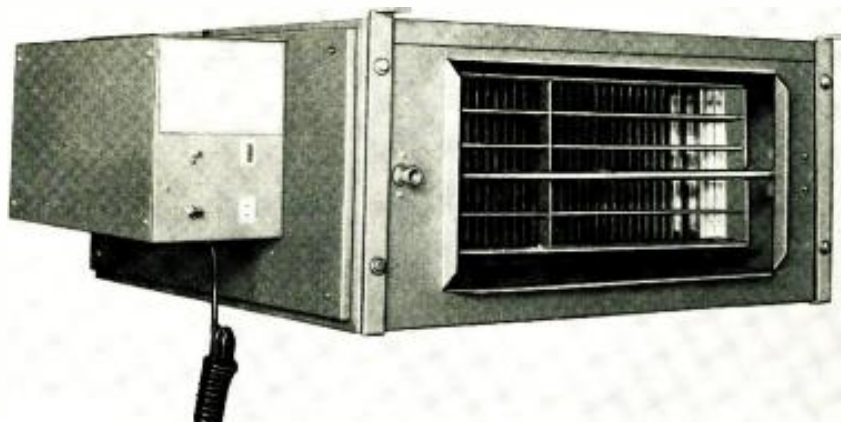

Fig. 3. Westinghouse "Precipitron" utilized for duct-type installations.
is accurately resonated at the operating frequency. The dimensions and feed-point resistance shown in Fig. 3 will be affected to some extent by height above ground, the proximity of other objects, and the size and type of material used in construction. Therefore, it is always a good idea to check a new antenna system with suitable test equipment to learn whether or not it is correctly tuned.
Fig. 3. A number of popular CB antennas. In all cases,  $\frac{1}{4}\lambda = 8'8"$  and  $\frac{1}{2}\lambda = 17'4"$ . FC is feed point for coax center conductor and FS is feed point for coax shield. (A) Ground plane, about 35 ohms impedance (52 ohms with built-in matching arrangement). (B) Drooping ground plane, about 52 ohms impedance. (C) Coaxial vertical, about 72 ohms. (D) Folded dipole, about 280 ohms. (E) Dipole, about 72 ohms. (F) Three-element beam, under 30 ohms (52 ohms with built-in matching arrangement shown). (G) Mobile whip, about 35 ohms. (H) Coil-loaded short mobile whip antenna, less than 30 ohms impedance unless it utilizes a built-in matching circuit.